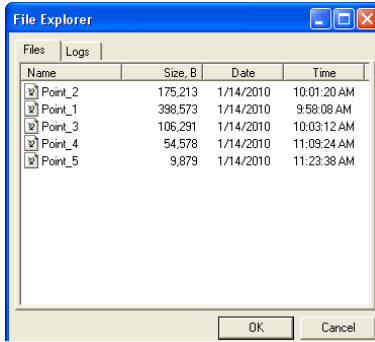

Figure 5-6. File Explorer Dialog Window
2. Click  icon in the main window. The *File Explorer* dialog box displays all logged raw data files (Figure 5-6).
box displays all logged raw data files (Figure 5-6).